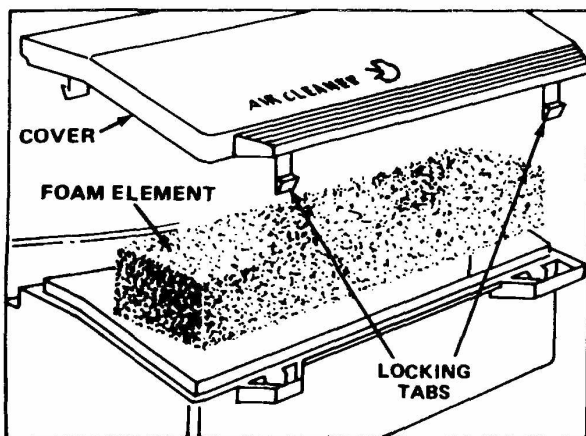

Figure 2-1
3. Push in the locking tabs and lift off the air cleaner cover. See Fig. 2-1. Clean the cover.
4. Remove the foam element. See Fig. 2-1.